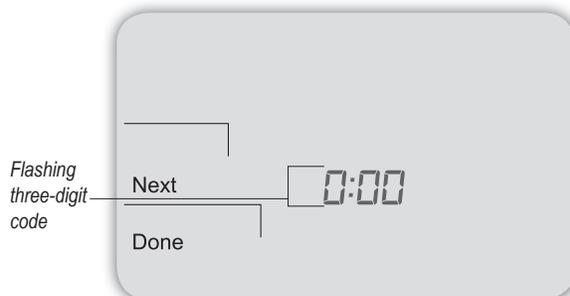

Figure 16. PIN access code flashes when user enters Service Menus (after enabling PIN access).
1. On the thermostat, press the lower left and lower right keys simultaneously for about five seconds. **Note** Flashing three-digit code, **Next, and Done** appear (see Fig. 16).